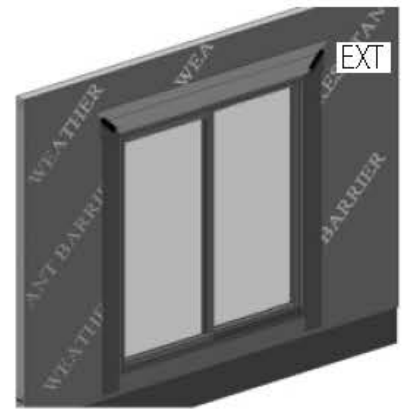

FIG. 19
- E) Tape the cut seams of the weather resistant barrier. (Fig. 19)